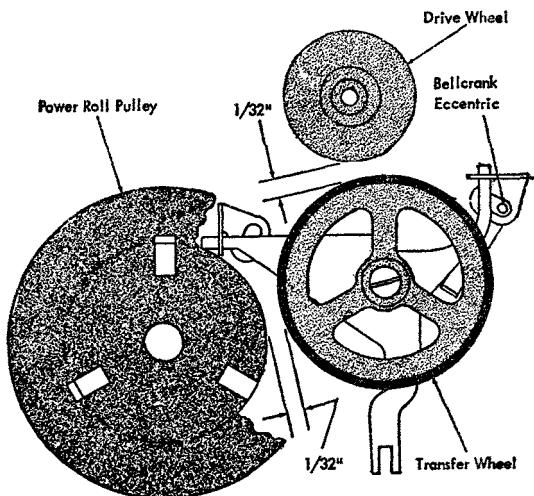

Figure 46. Transfer Wheel Adjustment
19. TRANSFER WHEEL. With the rewind lever latched down adjust the transfer wheel, by positioning its mounting, so it clears the drive wheel by $\frac{1}{32}$ " (Figure 46).
20. TRANSFER WHEEL BELLCRANK. With the rewind lever latched position the bellcrank-eccentric mounting-stud so that the transfer wheel clears the flange on the power roll pulley by $\frac{1}{32}$ " (Figure 46).